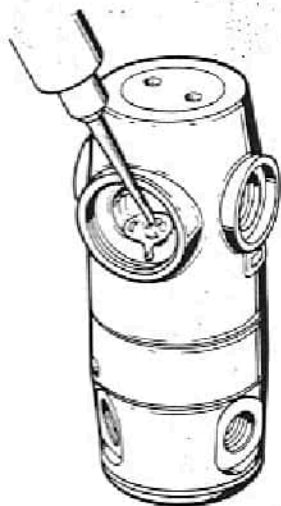

Fig. 16 - Filling Ambient Chamber w/ Silicone
28. Hold the first stage standing horizontal, so that the high pressure end is facing up. Using a syringe, if available, or squeeze bottle, slowly inject or pour approximately 11.5 cc's silicone fluid (P/N 1088-65) into the secondary diaphragm orifice until the ambient chamber is completely filled. Slowly rotate the first stage and tap it lightly to dislodge any loose bubbles. Top off as needed, until the secondary diaphragm cavity of the body is at least half full of fluid (see Fig. 16).